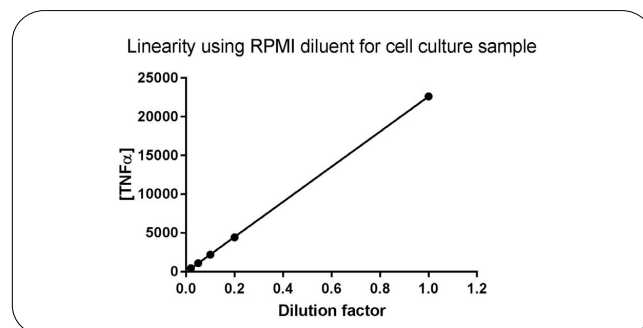

Figure 7: Linearity for a DELFIA TNFα assay using cell culture supernatant samples.
5. To determine linearity, plot the interpolated concentrations of the undiluted spike-in and respective dilutions versus the dilution factor (e.g., 1, 0.5, 0.25, 0.125, 0.0625, 0.03125). Perform a linear regression and determine linearity by correlation coefficient (Figure 7).